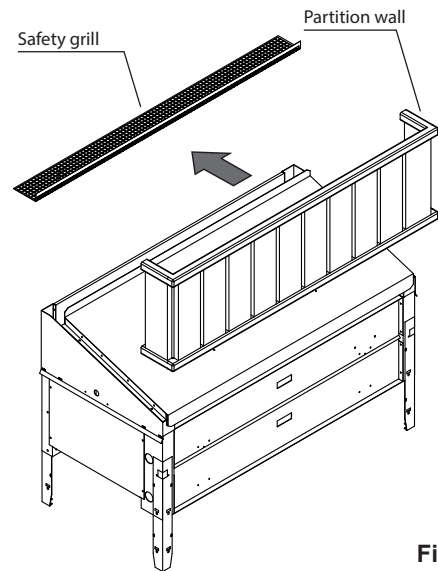

Fig. 8
- Install the partition wall so that the minimal safety clearances are observed. See Fig. 1 (page 8) and Fig. 8. The partition wall is not included with the heater.